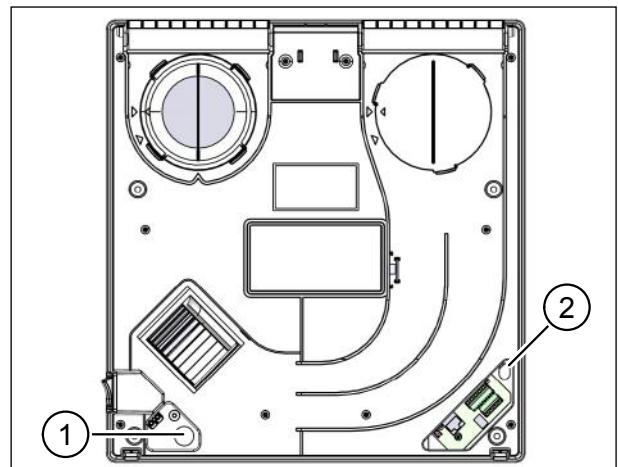

Fig. 26: Threading in the mains cable and control cable (if used)
- ▶ Thread the mains cable into the hole (item 1 in Fig. 26) on the ventilation unit and pull the cable through the hole.
- ▶ Thread the control cable (if used) into the hole (item 2 in Fig. 26) on the ventilation unit, and pull the cable through the hole.